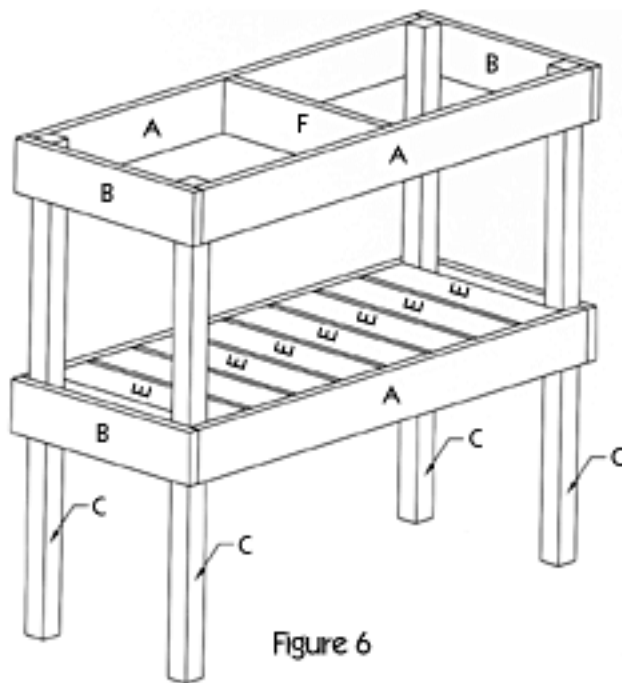

Figure 6
Cut one Top Support (F) from 1 x 4 pine x 13-1/2" long. Place the Top Support (F) between the two Long Sides (A) on the top, centered between the two Short Sides (B), as shown in figure 6. Apply glue to the meeting surfaces, and screw through the Long Sides (A) using two 1-5/8" wood screws on each joint.